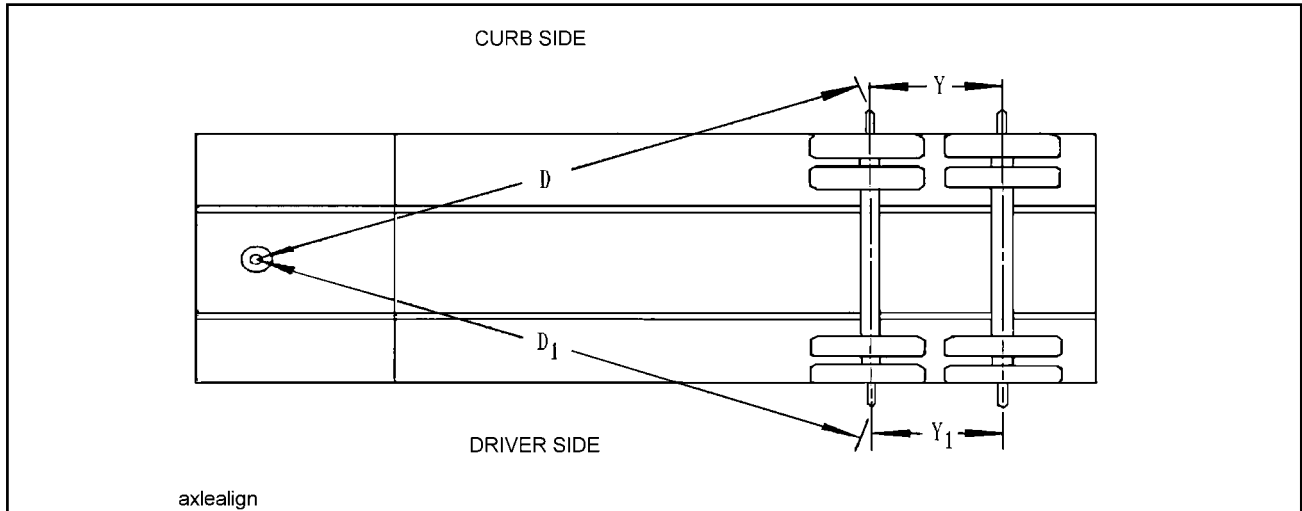

Figure 4-8 Checking Axle Alignment
4. Measure (D) from the plumb bob to the center point on one end of the axle. Record this measurement (**See Figure 4-8**).
5. Measure (D₁) to the other end of the axle in the same manner as in **Step 4**. Record this measurement (**See Figure 4-8**).